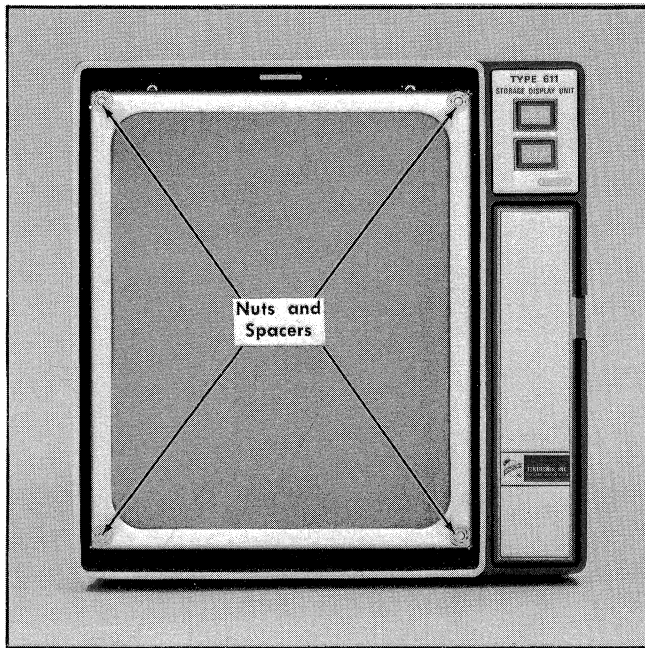

Fig. 4-9. Front panel with Bezel removed.
8. Remove the four nuts and spacers from the studs located in the corners of the front casting (see Fig. 4-9).